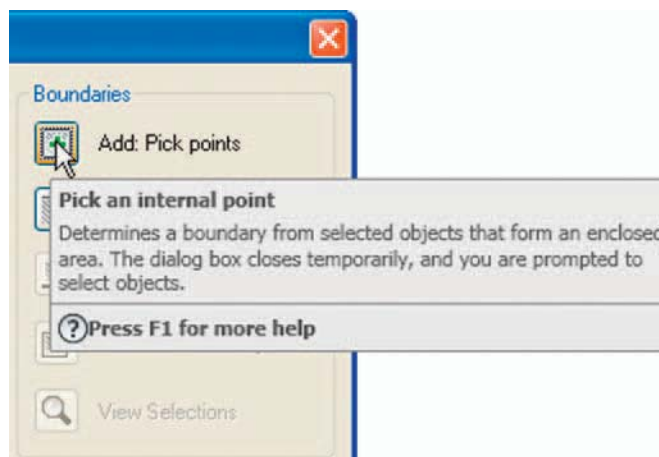

Fig. 7.13 The **Pick an internal point** button of the **Boundary Hatch and Fill** dialog
3. In the dialog left-click the **Pick an internal point** button (Fig. 7.13). The dialog disappears.